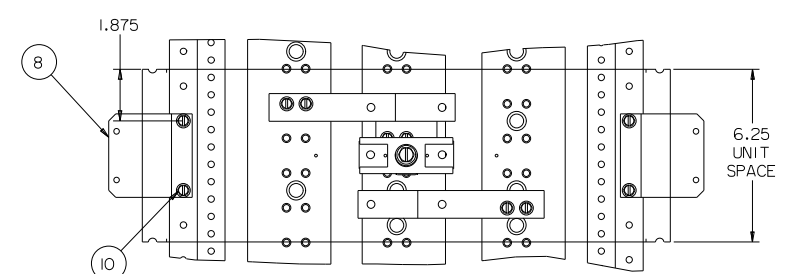

Figure 7
8. Reference fig. 7 - The mounting brackets (item 8) are to be mounted. Locate a 0.228" diameter hole on the left Z-rail 1.875" down from the top of the 6.25" of unit space. Insert one 1/4-20 X 3/8" screw (item 11) through the 0.312" diameter hole in the mounting bracket and then into the hole in the Z-rail and tighten securely. Orient the mounting bracket as shown, insert another 1/4-20 X 3/8" screw through the second 0.312" diameter hole in the mounting bracket and then into a 0.228" diameter hole in the Z-rail and tighten securely. Repeat the same steps to install the second mounting bracket onto the right hand Z-rail.